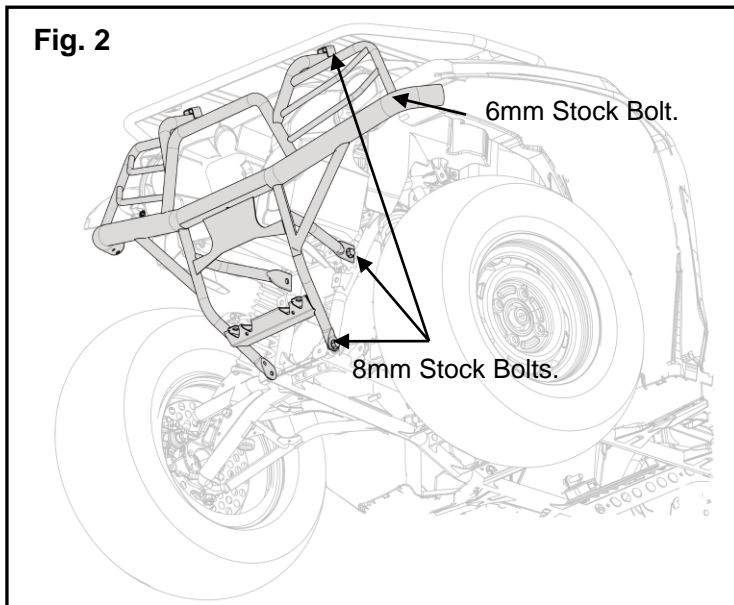

Fig. 2
3. Install the ① Front Brush Guard using stock mount locations and reuse the stock 8mm and 6mm bolts. Fig. 2 shows the locations of the left side mount locations.
5. Torque the 8mm bolts to 34 Nm (3.4 M-kgf, 24 ft-lbf) as shown in Fig. 2. Torque the 6mm bolts to 3Nm (0.3 M-kgf, 2.2 ft-lbf).